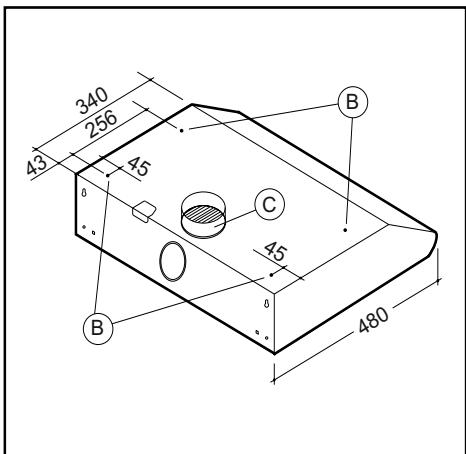

Fig.2
• MONTAGE DE LA HOTTE DANS LA PARTIE INFÉRIEURE D'UNE ARMOIRE - (Fig.2)
• MONTAJE DE LA CAMPANA EN LA PARTE INFERIOR DE UN ARMARIO - (Fig.2)